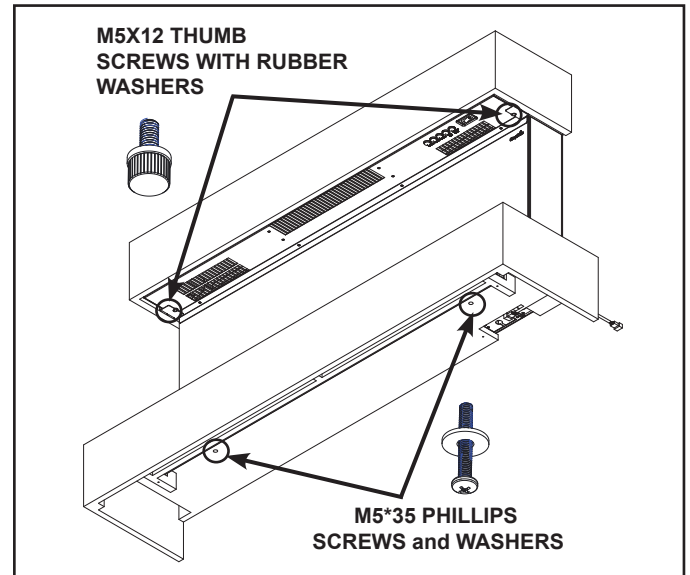

Figure 5
2. Fasten the bottom mantel section to the appliance with two M5\*35 Phillips screws. See Figure 5.
6. Secure the top mantel to the appliance using two (2) M5X12 thumb screws with rubber washers. See Figure 5.